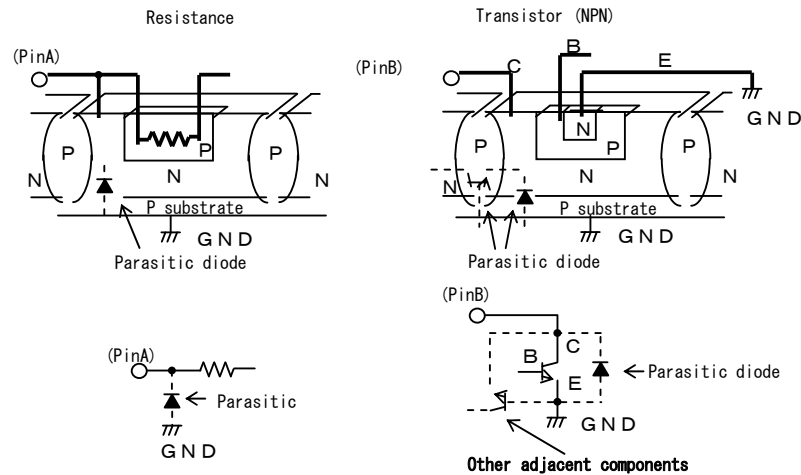

Fig.4. Simplified structure of a Bipolar IC
12. This IC is a monolithic IC which (as shown is Fig.4)has P+ substrate and between the various pins. A P-N junction is formed from this P layer of each pin. For example, the relation between each potential is as follows,